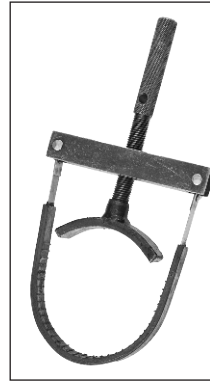

Fig. 1.17A
13. Magneto tool assembly - N931 017 0 (Fig. 1.17A)